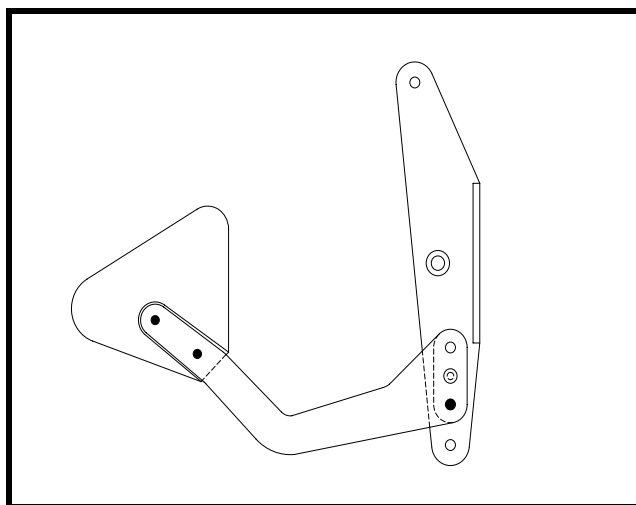

Figure 8
- ❑ Clamp the balance weight in place. See Figure 8. Use a 5/32"Ø drill bit to align the rivet holes. Make sure that the two arms are aligned with each other. Ream up the rivet holes through the balance weight and arms with a No. 21 drill (.159"Ø). After you have reamed one of the holes, place a rivet in the hole before drilling the other hole.